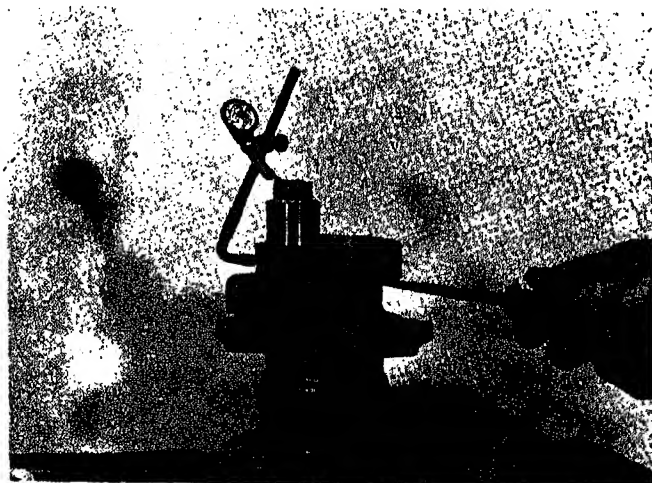

Fig. 12-2-26. Check crankshaft end clearance
3. Install crankshaft in crankcase end of support housing. Fig. 12-2-26.